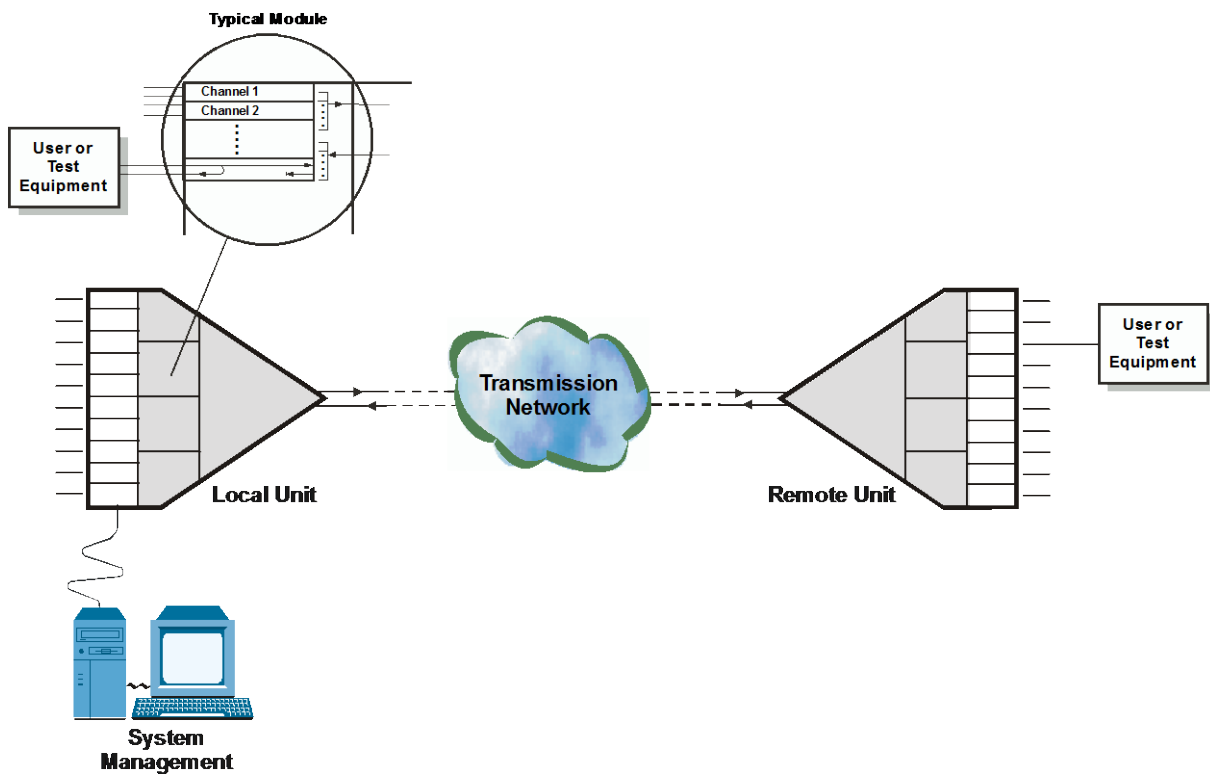

Figure 6-9. I/O Module, Local Loopback on Individual Channel
- A local loopback on an individual channel (*Figure 6-9*) includes only a small part of the module hardware, but helps in the location of connection problems, such as cable faults, wrong wiring, etc. This type of loopback is present on all the I/O modules.